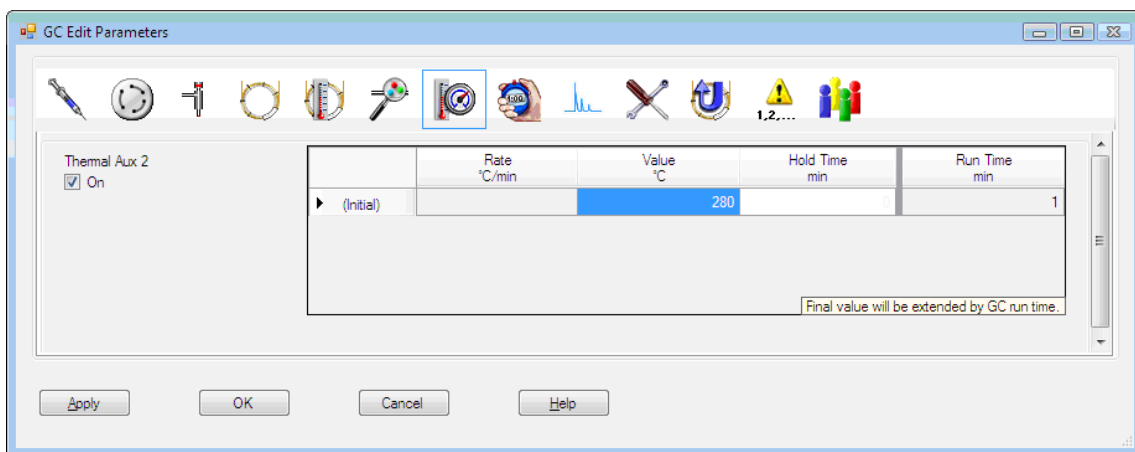

Figure 9 Setting the interface temperature
- 2 Click the **Aux** icon to edit the interface temperature (Figure 9). This example has the GC/MS interface temperature configured as Thermal Aux 2.